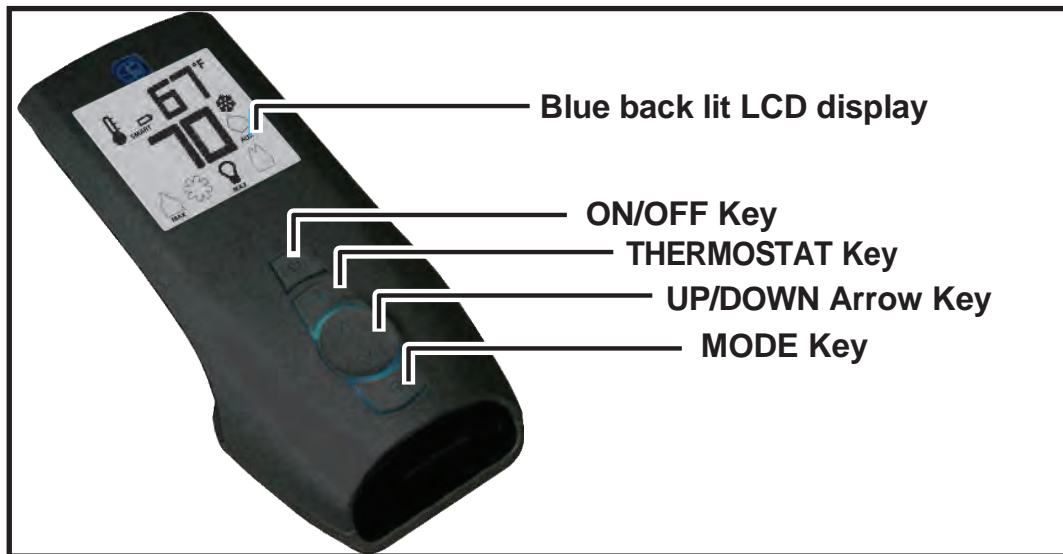
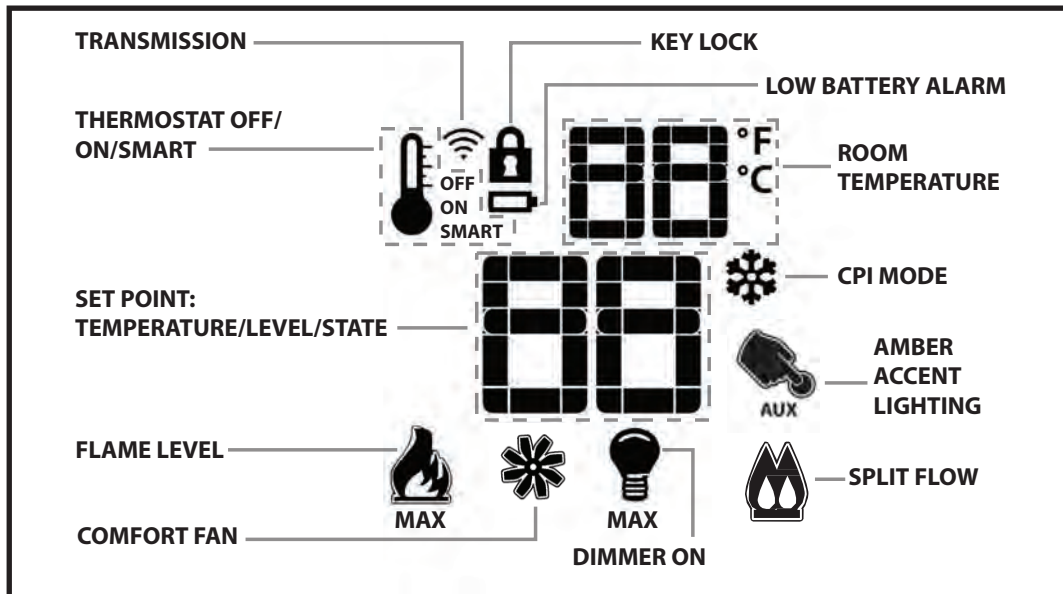
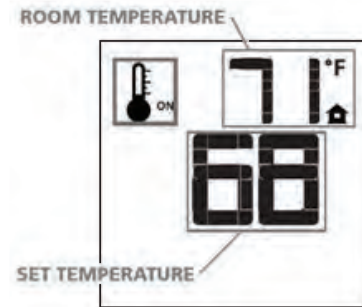
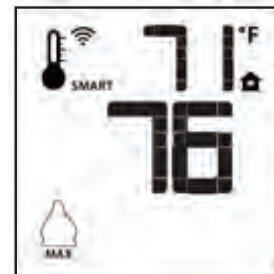

Figure 1: Proflame 2 handset.
Figure 2: Proflame 2 LCD display.
Figure 9: Room temperature control.
Figure 10: Smart flame control.
The Proflame 2 Transmitter uses a streamline design with a simple button layout and informative LCD display Figure 1. The transmitter is powered by 3 AAA type batteries. A Mode key is provided to Index between the features and a Thermostat key is used to turn on/off or index through thermostat functions (Figure 1) and (Figure 2).
2. Install 3 AAA batteries into the Proflame2 Remote Transmitter (Figure 1).
To activate this function, press the thermostat key (Figure 1). The LCD display on the remote transmitter will change to show that the room thermostat is “ON” and the set temperature is now displayed (Figure 9). To adjust the set point, press the up or down arrow keys until the desired set point temperature is displayed on the LCD screen of the remote transmitter.
To activate this function, press the THERMOSTAT key (Figure 1) until the word “SMART” appears to the right of the temperature bulb graphic (Figure 10). To adjust the set point, press the up or down arrow keys until the desired set point temperature is displayed on the LCD screen of the remote transmitter (Figure 11).
To activate this function use the Mode Key (Figure 1) to index to the fan control icon (Figure 12). Use the Up/Down Arrow Keys (Figure 1) to turn on, off or adjust the fan speed (Figure 12). A single “beep” will confirm reception of the command.
To activate this function, use the Mode Key, (Figure 1) to index to the AUX icon (Figure 13). Pressing the Up Arrow Key will turn the light on. Pressing the Down Arrow Key will turn the light off (Figure 14). A single “beep” will confirm the reception of the command.
With the system in “OFF” position press the Mode Key (Figure 1) to index to the CPI mode icon (Figure 15). Pressing the Up Arrow Key will activate the Continuous Pilot Ignition mode (CPI). Pressing the Down Arrow Key will return to IPI. A single “beep” will confirm the reception of the command.